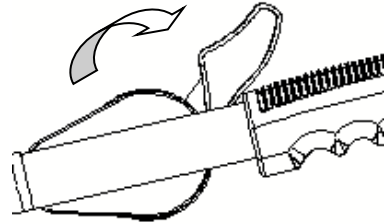

Fig 4-17
3.2.2 Move the throttle lever to the right end (low speed). ( Fig 4-17 )